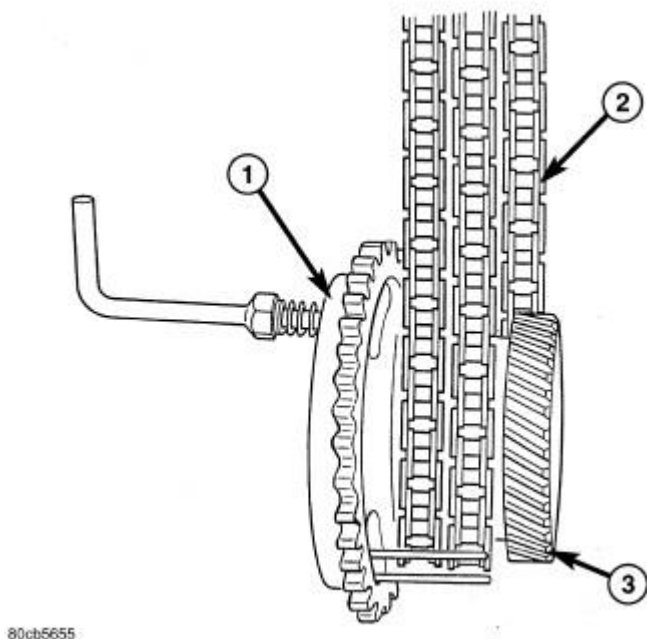

Fig. 60: Locking Secondary Timing Chains
12. Remove Special Tool (special tool #8429, Holder, Secondary Camshaft Chain) (1). Refer to **Fig. 60**.